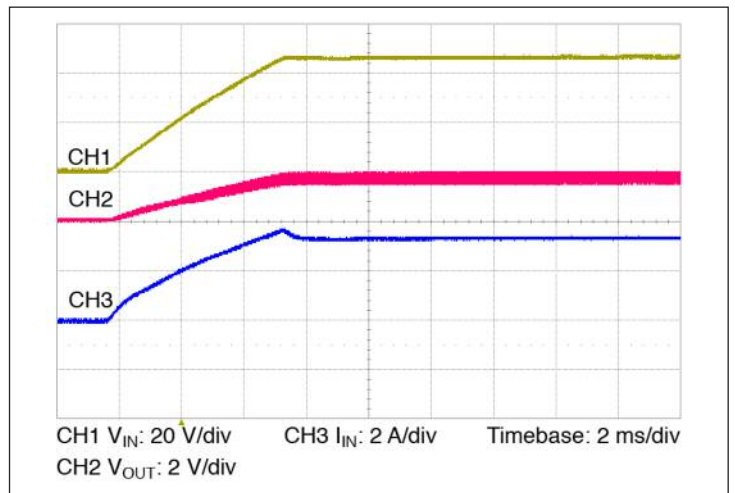

Figure 10 — Start up from application of V_{IN}; VC pre-applied C_{OUT} = 27000 μF
- **Normal operation (VC applied prior to V_{IN}):** In this case the controller is active prior to ramping the input. When the input voltage is applied, the VTM module output voltage will track the input (See Figure 10). The inrush current is determined by the input voltage rate of rise and output capacitance. If the VC voltage is removed prior to the input reaching 26 V, the VTM may shut down.